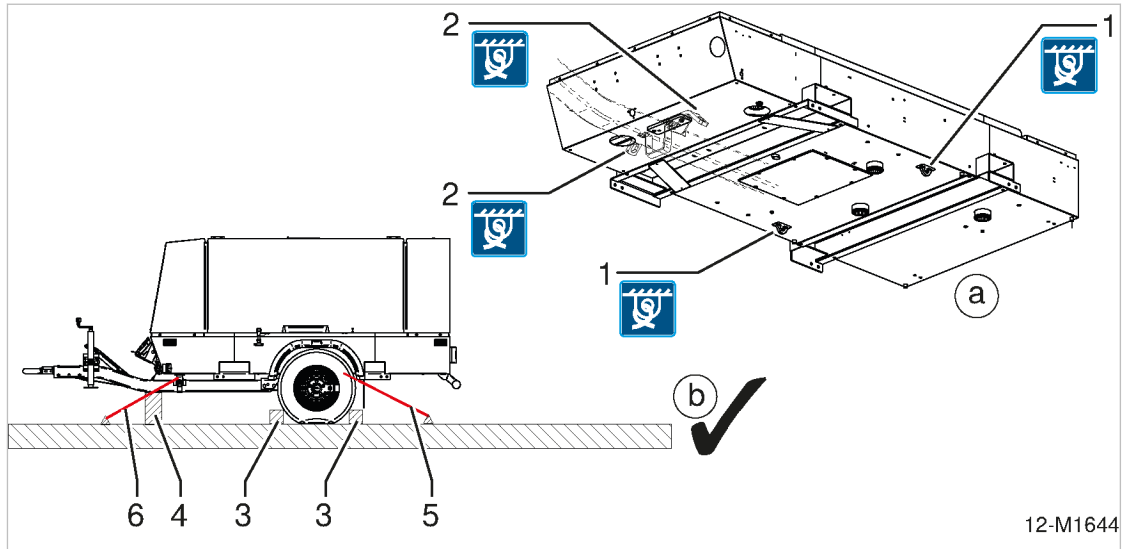

Fig. 65 Load-securing points for transport securing
- Fastening points, see Fig. 65